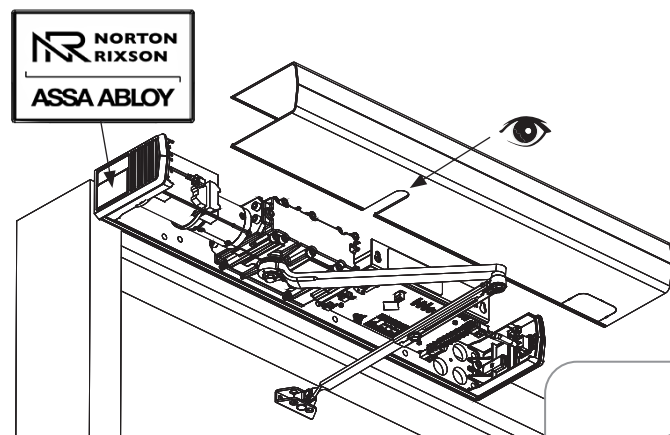

Fig. 19
2. Align the cut-outs in the cover to pinion shafts. (Fig. 19)
6. Attach a label plate to each end cap by snapping it into place by hand with gentle pressure. (Fig. 19)